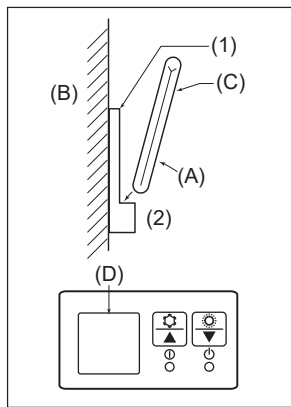

Fig. 6-8
2) Installation method (Fig. 6-8)